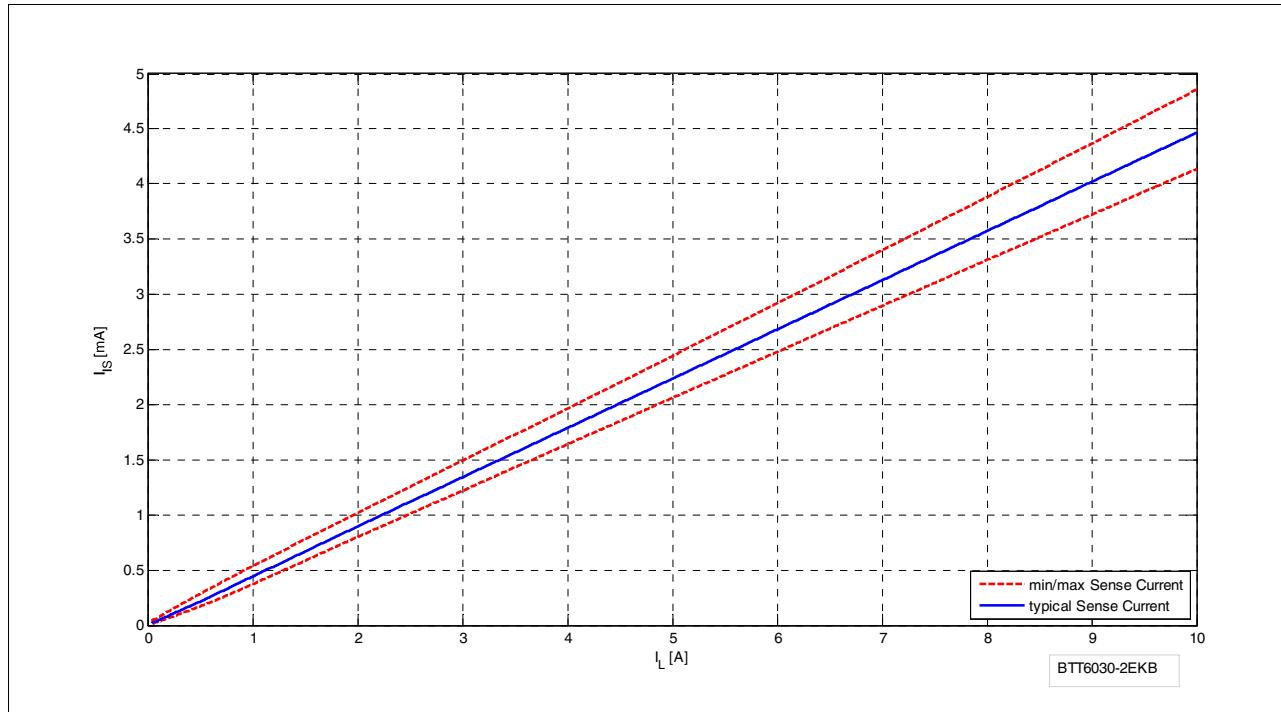

Figure 21 Current Sense for Nominal Load
**Figure 21** show the current sense as a function of the load current in the power DMOS. Usually, a pull-down resistor  $R_{IS}$  is connected to the IS pin. This resistor has to be higher than  $560\ \Omega$  to limit the power losses in the sense circuitry. A typical value is  $1.2\ k\Omega$ . The blue curve represents the ideal SENSE, assuming an ideal  $k_{ILIS}$  factor value. The red curves show the accuracy the device provides across full temperature range, at a defined current.